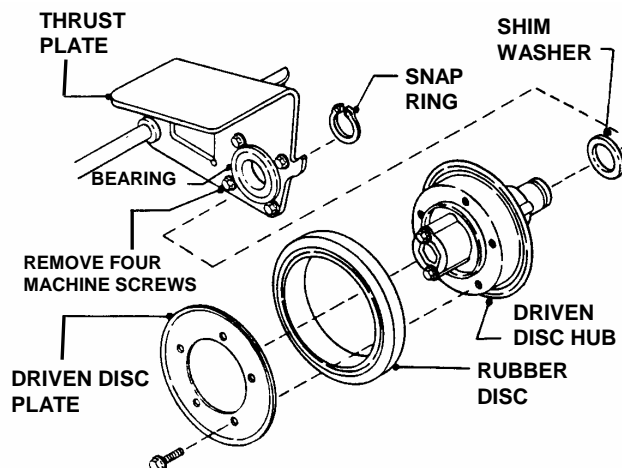

FIGURE 4.14
3. Remove snap ring that secures driven disc hub to thrust plate. See Figure 4.14.